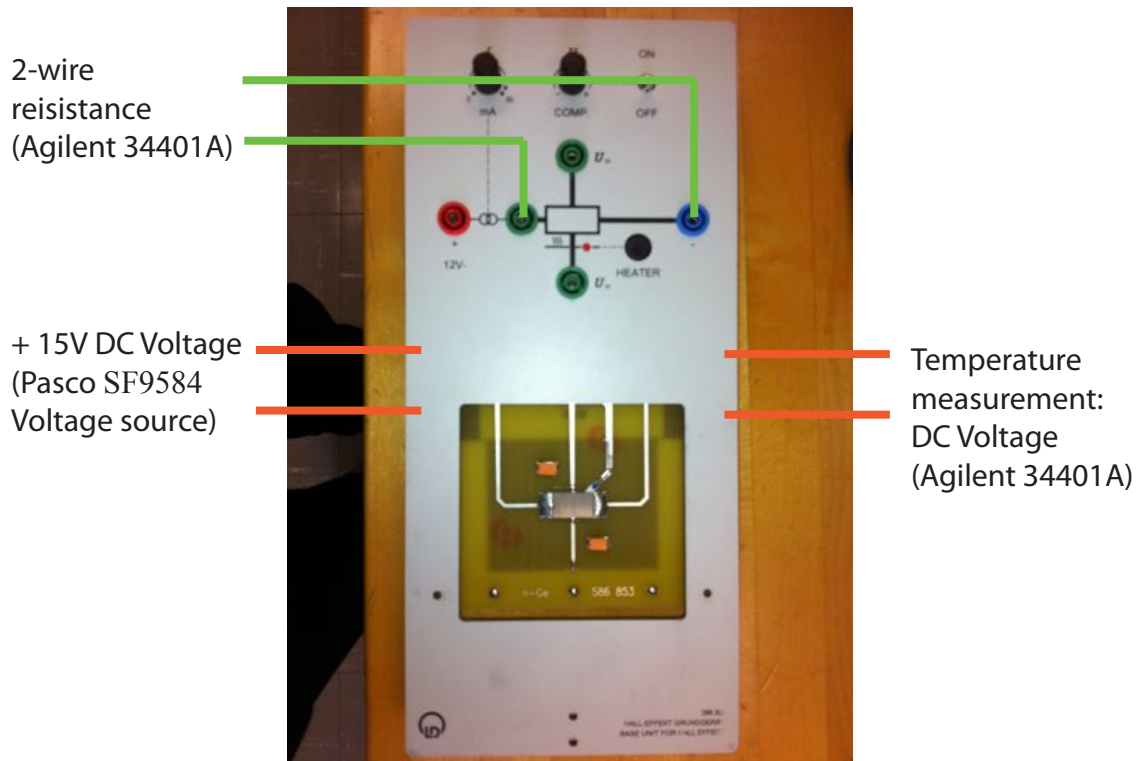

Figure 1: Wiring diagram for resistance vs. temperature measurement.
2. Connect the 2 Agilent 34401A multimeter and the Pasco SF9584 PS power supply to the base unit to power the heater and measure the thermometer voltage and sample resistance (see figure 1).